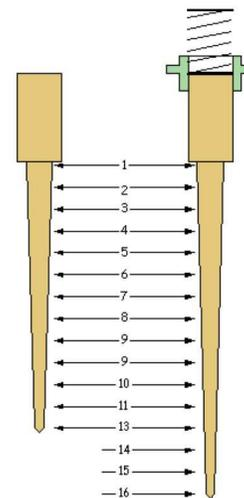

Fig 3 Two needle types
**Figure 3** shows the two needle types, the biased needle being the one on the right.
The needle profiles are measured at 3mm (1/8 inch) intervals along the centre axis as indicated in Figure 3.